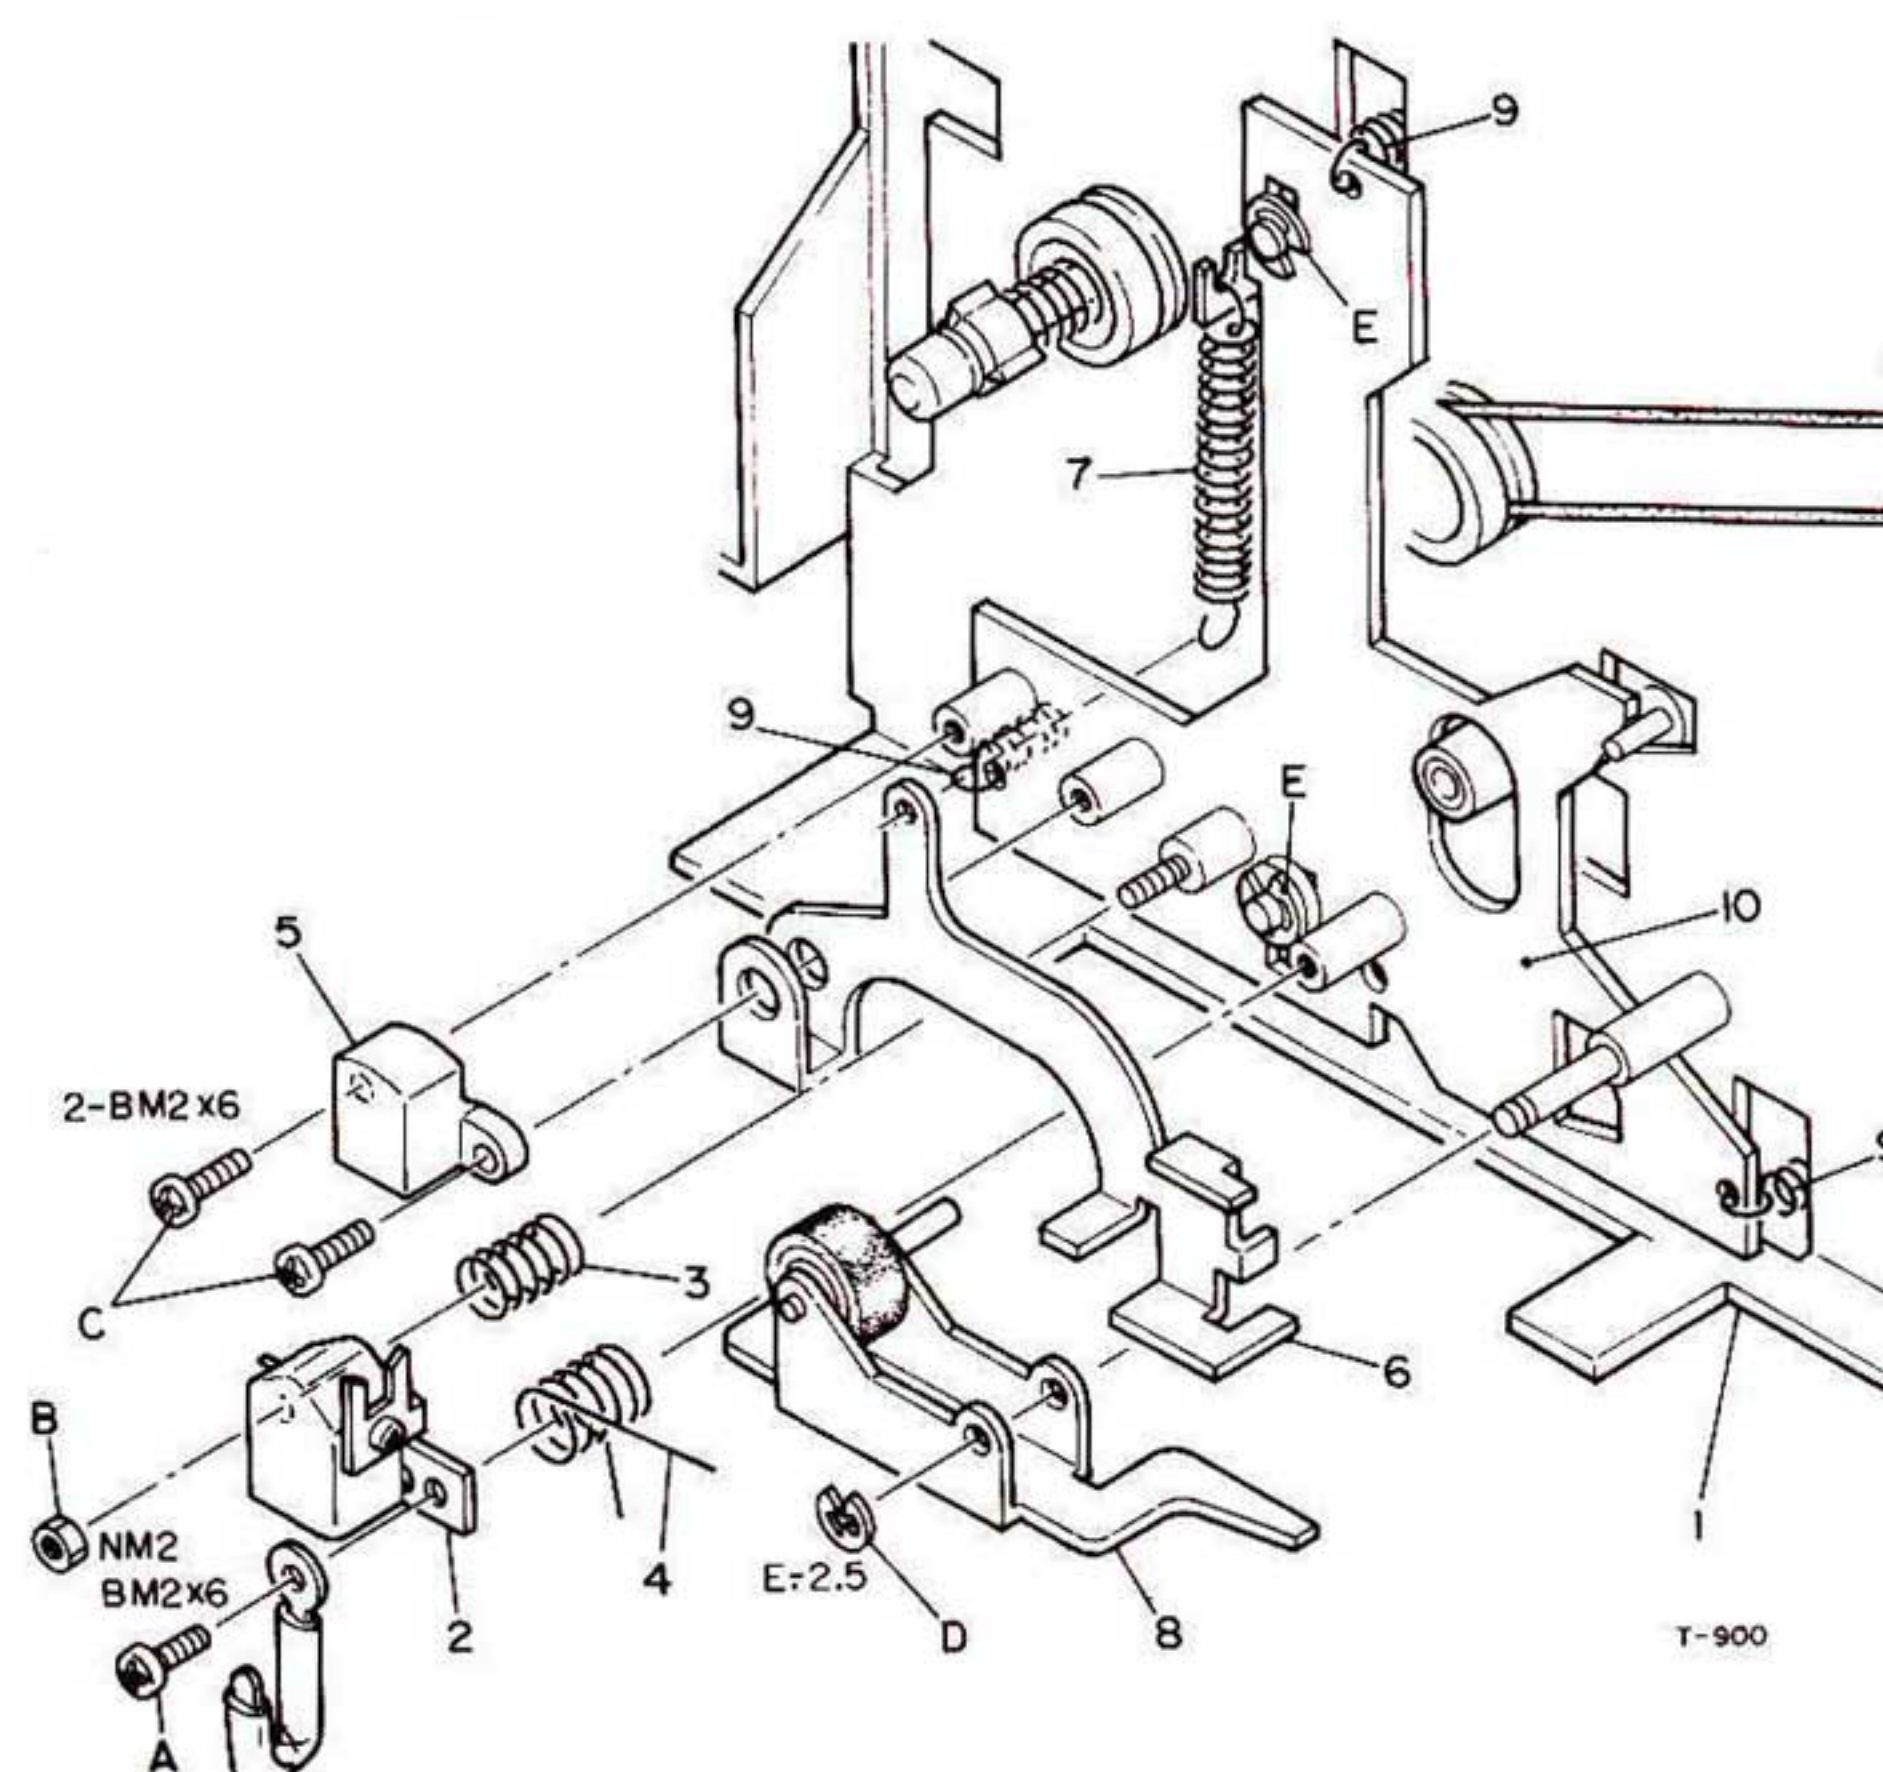

Fig. 4-3 Head and Pinch Roller
1. Remove the transport chassis (1) from the front chassis.
2. Remove the cassette holder assy from the transport chassis (1).
3. Remove the head mounting plate (10 in Fig. 4-3).
4. After the head mounting plate is removed, remove the brake arm (2) from the lever assy (3).
5. Remove brake shoes (4) from the Brake Arm.